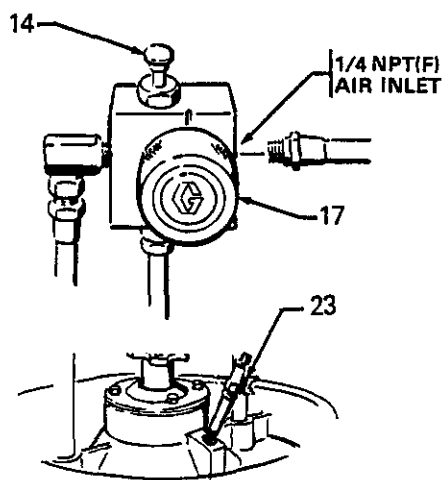

Fig 2
Connect a suitable 0.38 in. (9.7 mm) min. ID air hose to director valve 1/4 npt(f) air inlet and to air supply line. See Fig 2. Connect air supply and material hoses to pump. Refer to separate pump instructions for recommended sizes.
Turn director valve knob (17) to UP position (See Fig 2) and let Ram go up to its fully raised height.
then turn valve to OFF. Reposition drum as necessary so wipers will not hit drum lip and open the vent valve (23) on the inductor plate. See Fig 2.